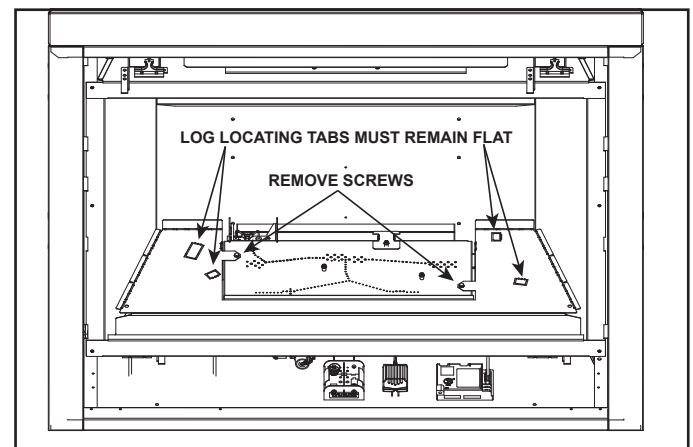

Figure 2. Remove Base Pan
1. Remove base pan from the appliance by removing the two screws that secure the base pan to the burner top. Retain screws. See Figure 2.